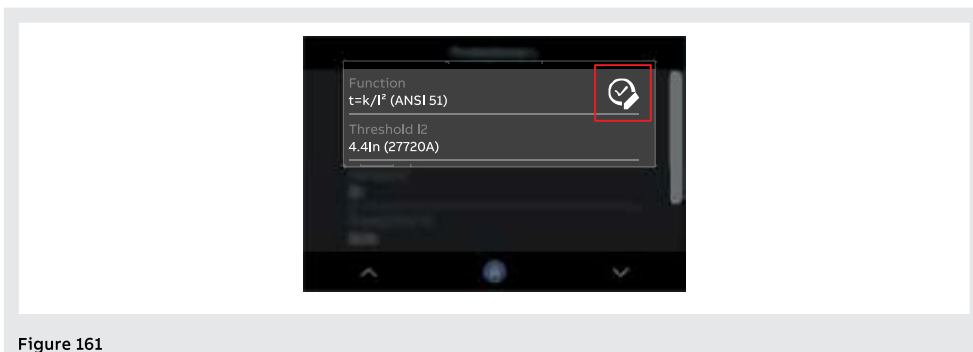

Figure 161
4. when the new value has been confirmed, you will automatically access the menu of the protection and the edited parameter will be highlighted by the edit symbol (Figure 161);